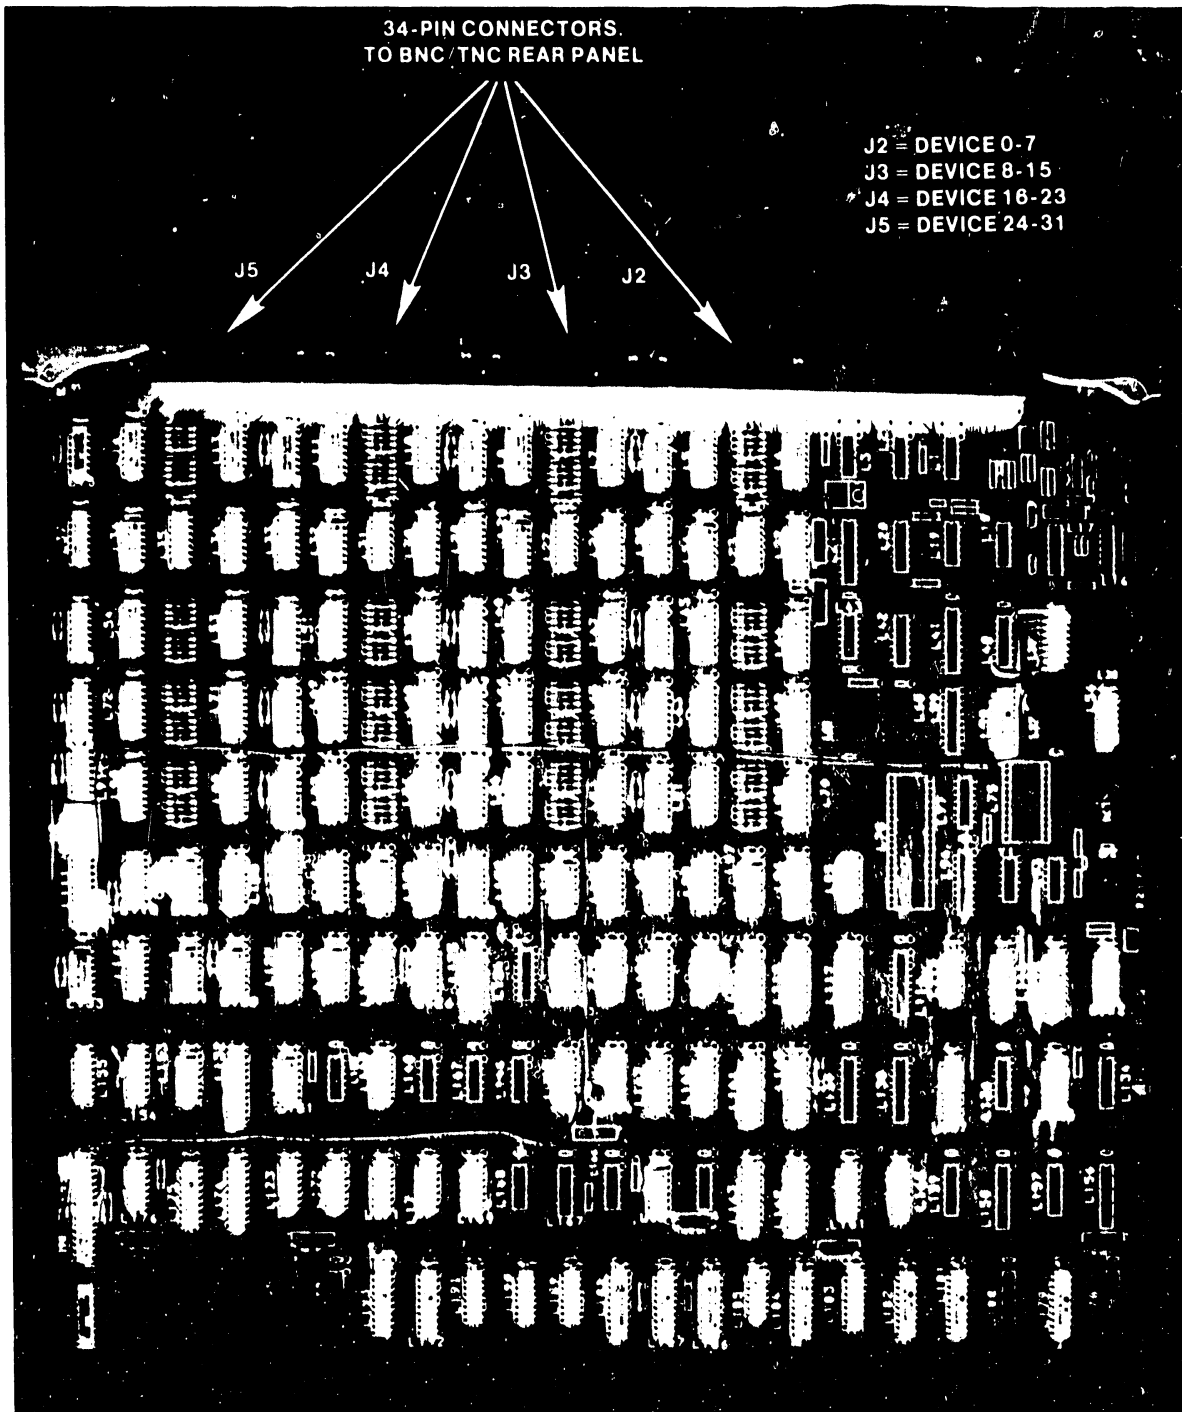

Figure C-8. 210-7906 Serial I/O Adapter
- a. Remove all connectors from the top of the Serial I/O Device Adapter (figure C-8) in Motherboard slot #4 (I/ODAI). Note the position of all connectors for installation of the ISIO board.